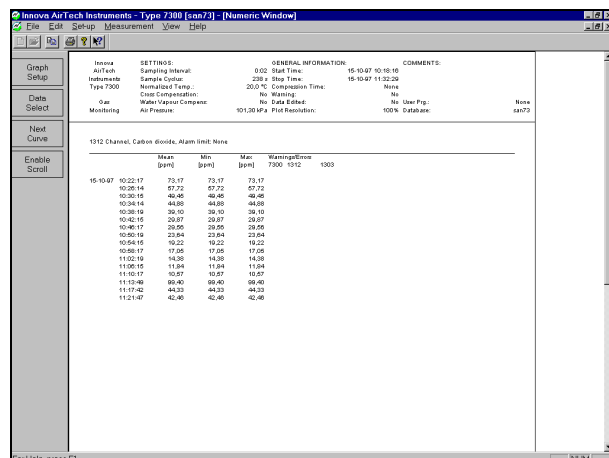

Fig.5.12 The numeric window showing measurement information
1. Pull down the **View** menu and click on **Numeric window**. The numeric window will be displayed, Fig.5.12. Now make the numeric window larger, using either the Size Box or the Full Box icons on the numeric window.
A panel of "buttons" will be displayed on the left side of the numeric window, Fig.5.12. These buttons are dedicated to the numeric window, and are used to set-up the numeric window to display the data you want. **Show Panel** is a